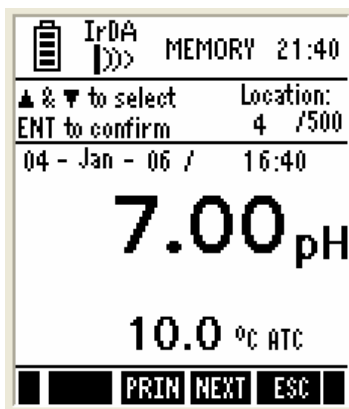

Figure 24 : Viewing stored data
3. Press **MEM (F2)** key to view stored data. The last stored data entry is shown in the display (Figure 24). The memory location of the currently showing data entry is shown in the top-right corner of the screen.